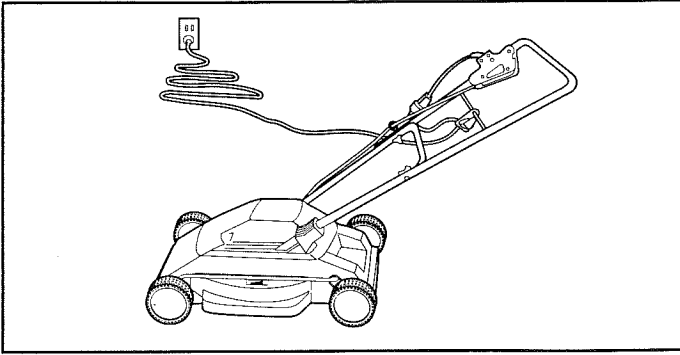

FIGURE 11
- Place most of the extension cord close to the electrical outlet, out of the path of the mower (Figure 11). **CAUTION:** Do not plug extension cord into receptacle outlet while standing in water or when hands are wet.
- Begin mowing in the area closest to the outlet and mow in a back and forth manner (Figure 11). Use the cord control hanger to move the cord to the outlet side of the mower as you change directions. Note that cord is kept on cut portion of lawn.